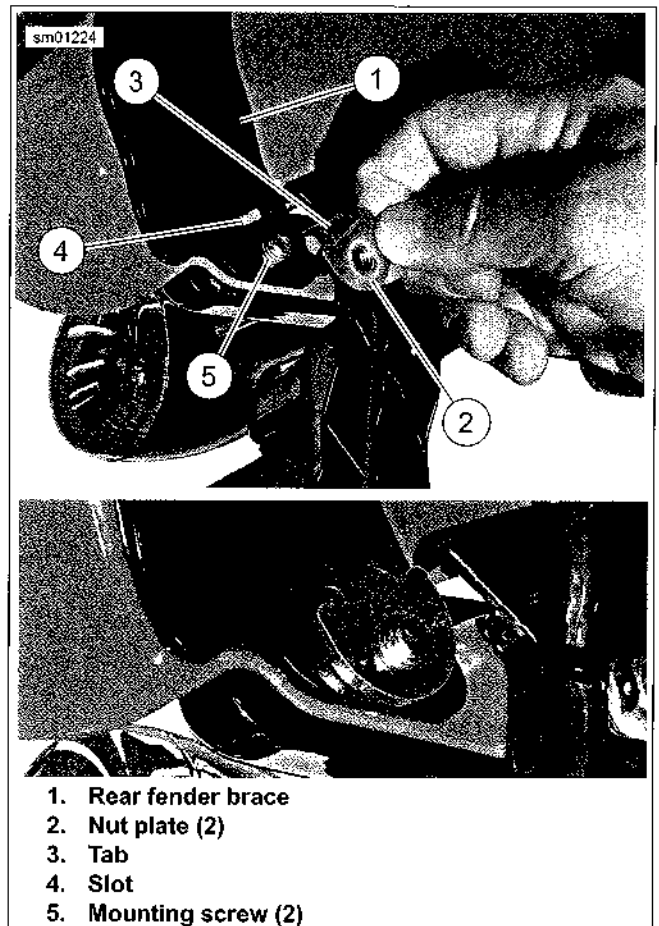

Figure 2-162. Rear Fender Nut Plate (DOM Only)
7. Thread nut (6) onto each rear turn signal stalk finger-tight. Install two forward fender support screws with washers (2). Thread nut (4) onto each screw finger-tight.
9. Place rear fender brace (7) in position under fender and secure with screw and washer (9) finger-tight. Install two aft fender support screws with washers (3).
- b. **DOM models:** See Figure 2-162. Install nut plate (2) on each mounting screw (5) finger-tight.
DOM models: see Figure 2-162. Make sure that tab (3) on each nut plate (2) fits into slot (4) in fender brace (1).